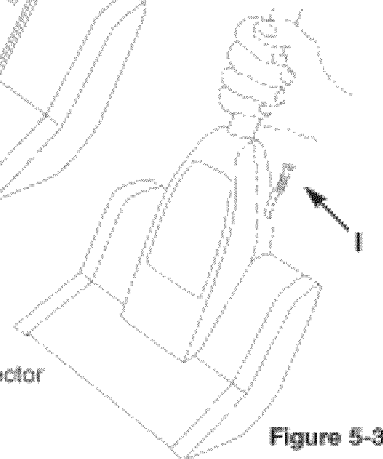

Figure 5-3
4. With the Snow Joe decal on the handle support (H) facing you, line up the grooves in the handle support (H) with the grooves in the power base, and slide together until interlocked. (Figure 5-3)
5. Locate two Phillips-head screws (I) in the Parts Bag. Insert the first screw into the hole in back of the handle support and turn until tight. Insert the second screw into second hole and tighten. (Figure 5-3)